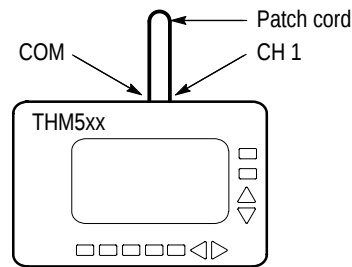

Figure 11: DC Offset Test Setup
4. Use a patch cord to short the THM500 series instrument COM and CH 1 inputs as shown in Figure 11.